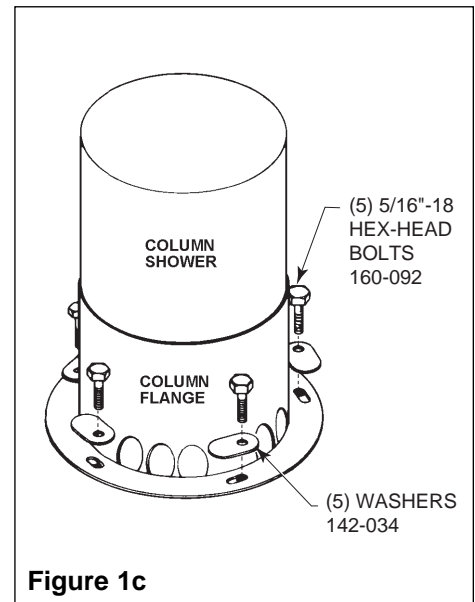

Figure 1c
5. Bolt the shower to the drain with the five bolts (removed in procedure #1) and oval washers provided (see Figure 1c).